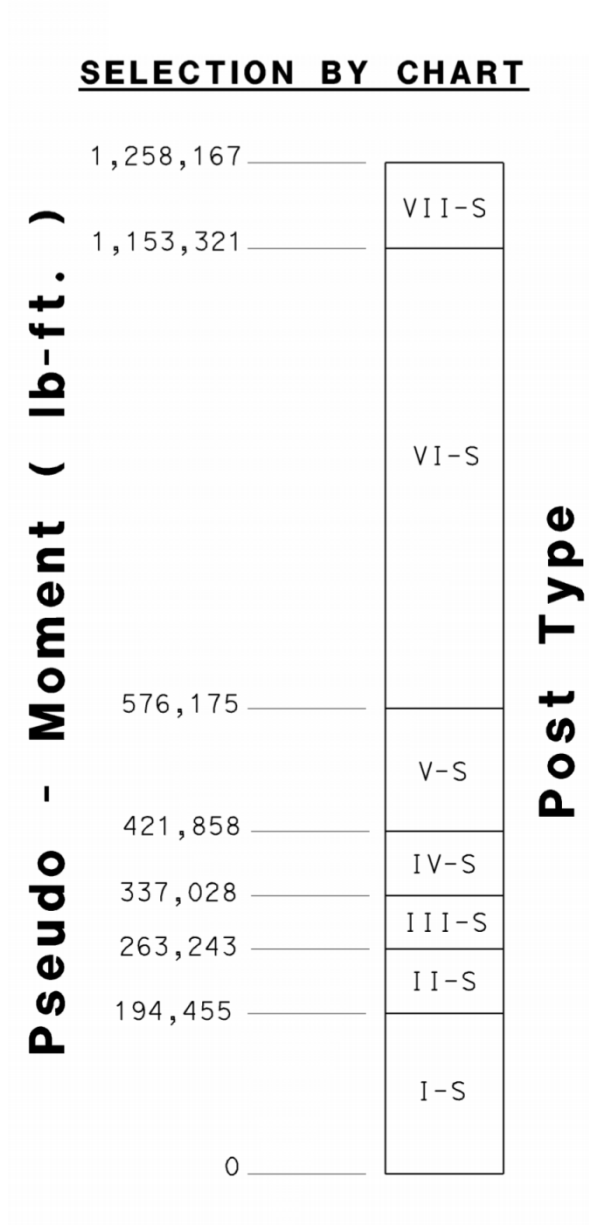

Figure 2: Post Type Selection for Two Post Truss Using Pseudo-Moment
- Use Figure 2 to determine minimum post size for Post 1
- Use Figure 2 to determine minimum post size for Post 2